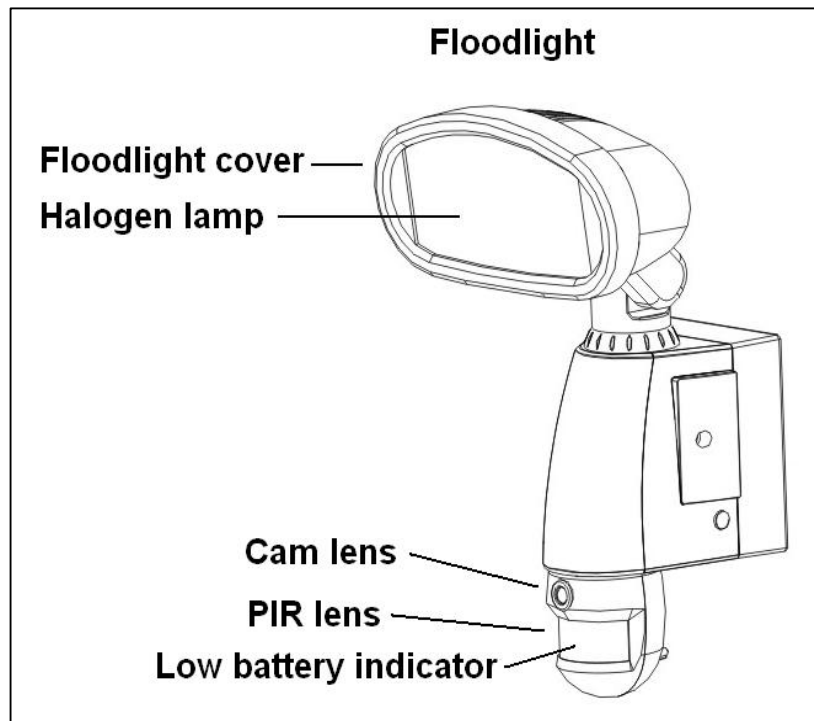

Fig. 1
1. Definition of front view parts (see fig. 1)